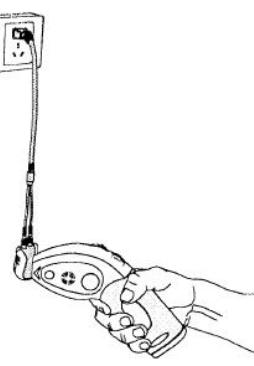

Fig.3
6. Place the receiver by the emitter (fig. 3). The receiver will issue a sound signal and its green LED will flash.